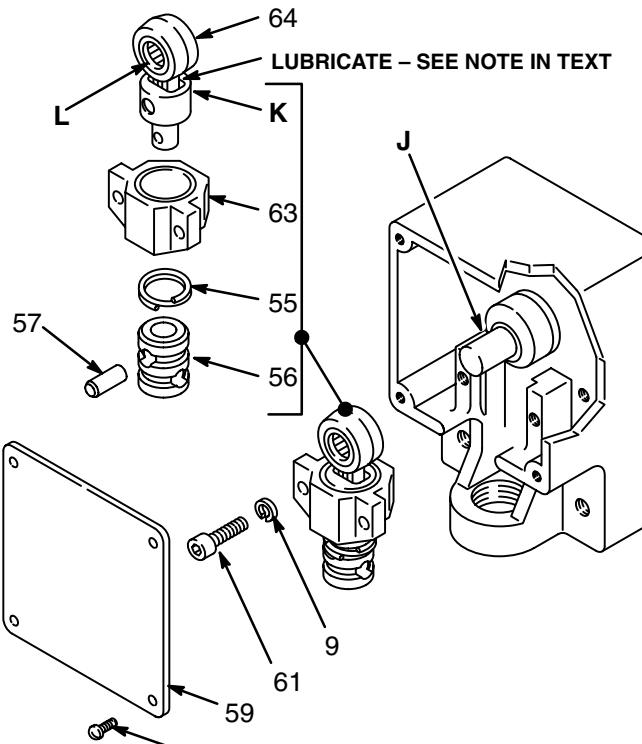

Fig 5
Remove the pump as described on page 14. Remove the four screws (58) and the cover (59). Remove the two capscrews (61) and lockwashers (9). Remove the bearing (63) and the connecting rod (64), sliding the connecting rod off the crankshaft. (J). See Fig 5.